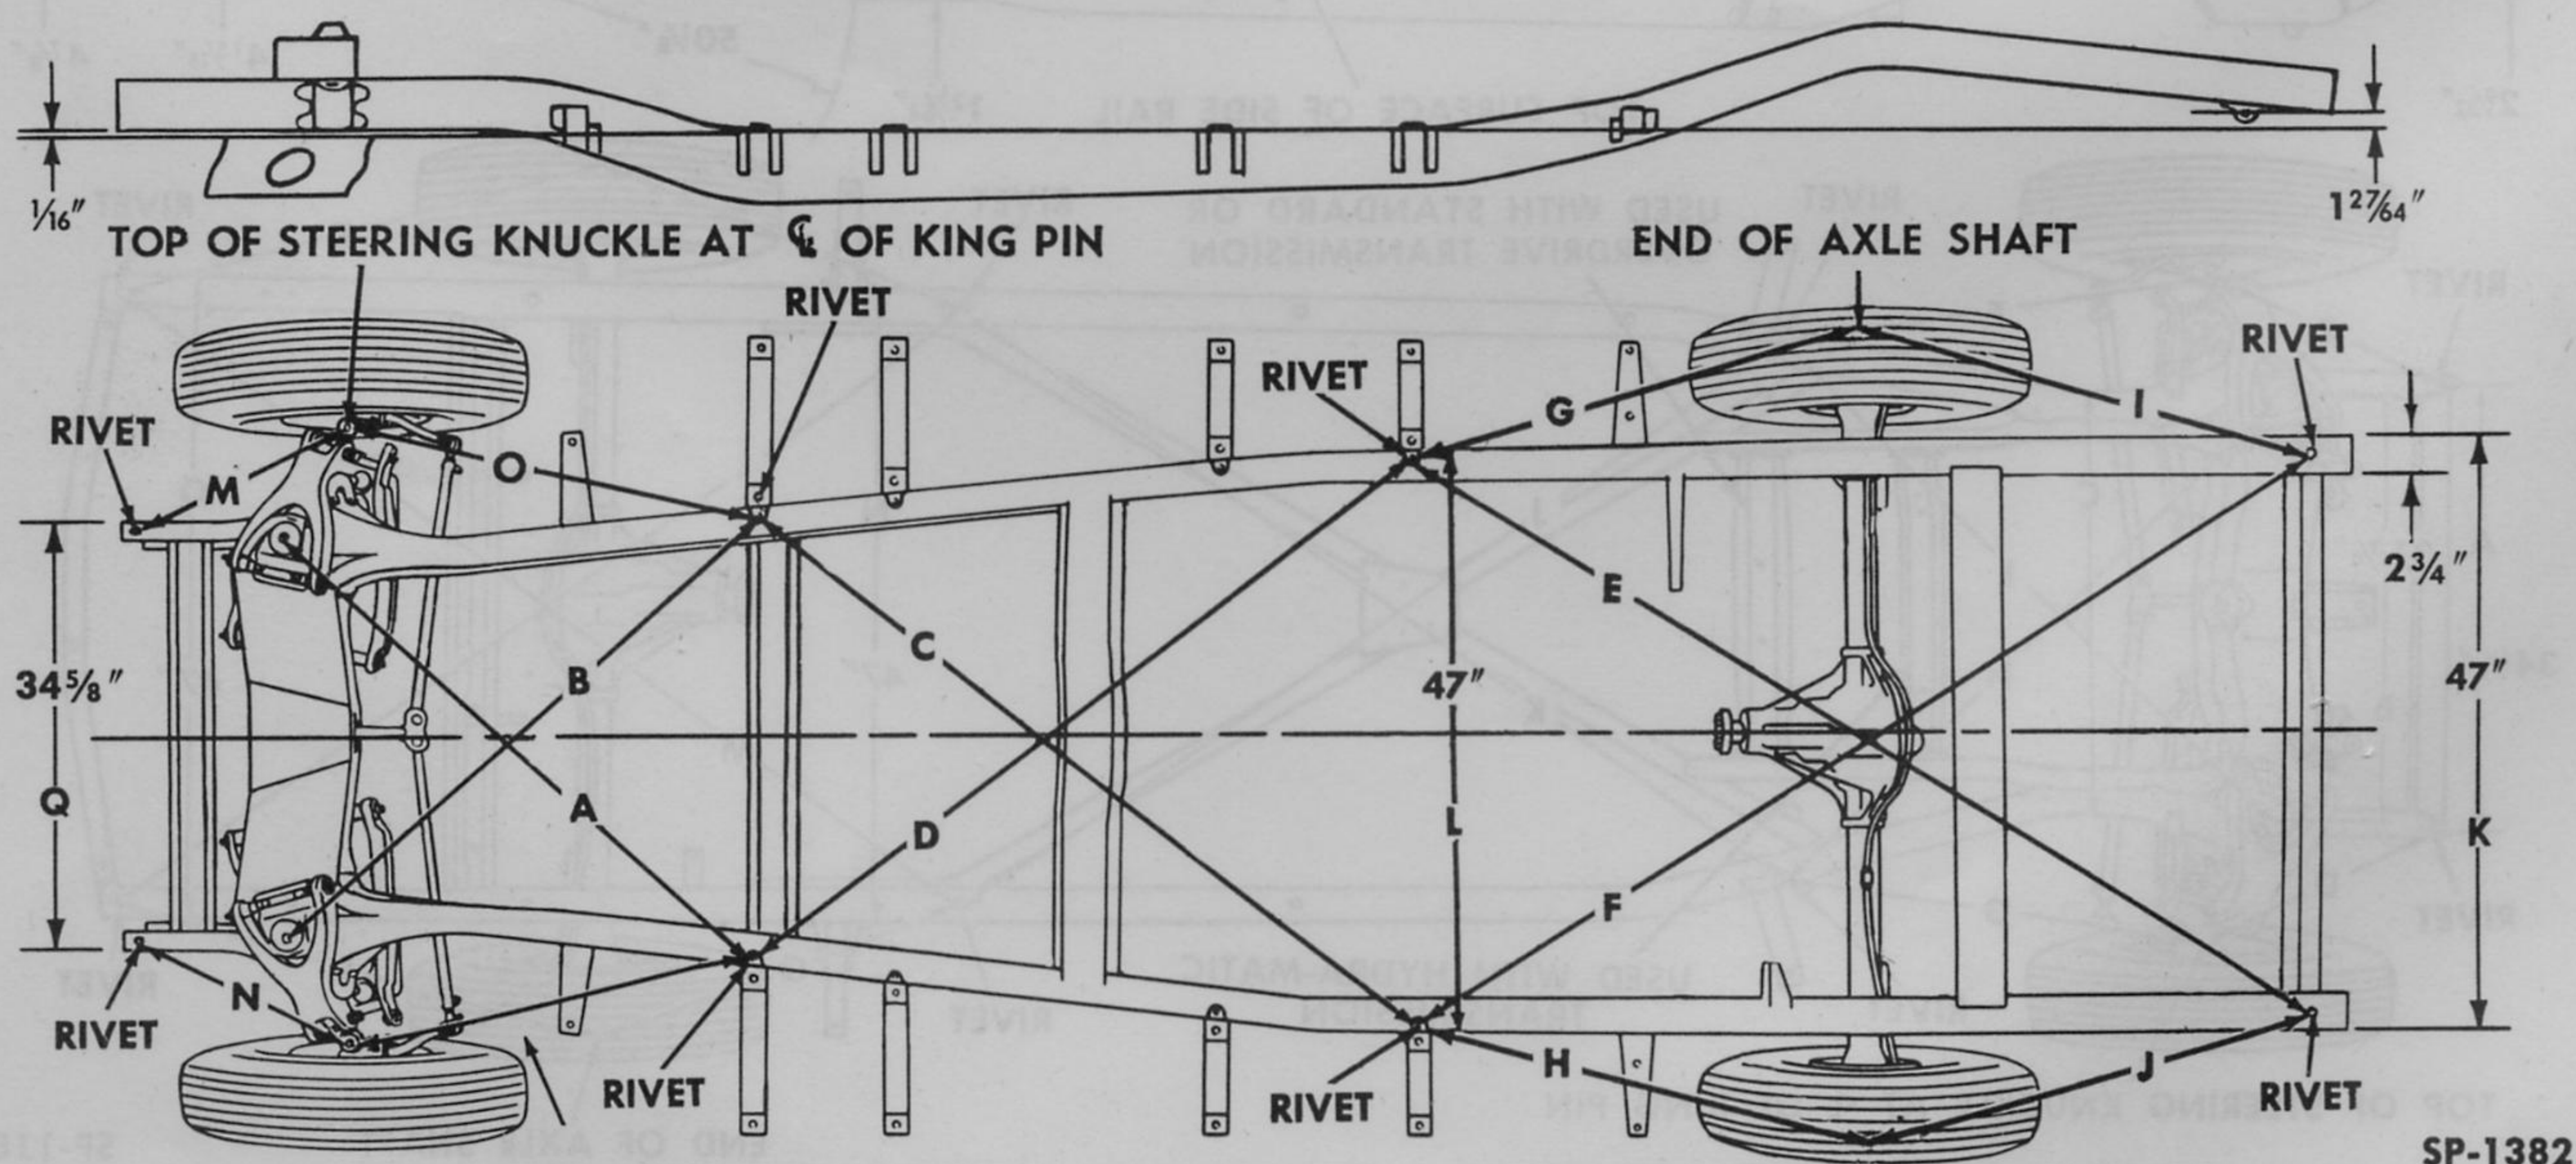

Fig. 325—Typical Frame, Front Suspension and Rear Axle Alignment Diagram—Frazer
2. Frazer (Fig. 325). Measure the distance between the points marked on the floor connected by the diagonal lines "A," "B," "C," "D," etc. Intersecting diagonals, as "A" and "B," should measure the same within $\frac{1}{4}$ of an inch. Other pairs of intersecting diagonals "C" and "D" and "E" and "F" should also be checked and frame straightened to correct any misalignment indicated by unequal corresponding diagonals. The dimension indicated by "Q" is not comparable to any other line. However, the dimension taken from the vehicle should check within $\frac{1}{4}$ inch of that shown in Fig. 325.
A line in a horizontal plane along the top edge of the frame side rail, in the Frazer models, when extended to the front end and rear ends of the frame as shown in the frame side view (Fig. 325) is parallel to and $\frac{1}{16}$ of an inch below the bottom of the forward end of the side rail and $1\frac{27}{64}$ inches below the center of the hole in the rear spring rear hanger.
2. Frazer (Fig. 325). Check for these conditions on the Frazer models by measuring the distance between the points connected by lines "O," "P," "N," "M," "L," "K," "G," "H," "I" and "J." Corresponding lines, as "O" and "P" and "G" and "H" should measure the same within $\frac{1}{4}$ of an inch.